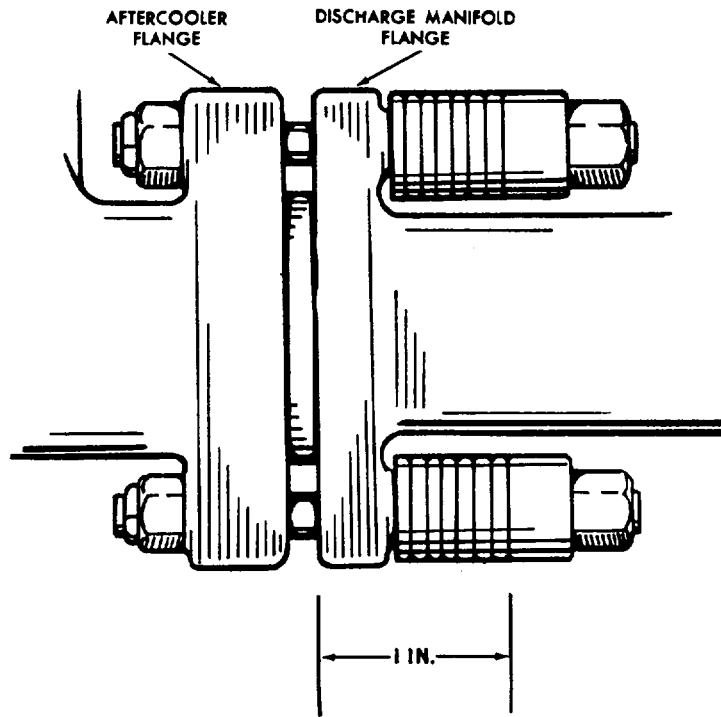

Figure 53. Aftercooler flange mounting view.
- (4) Insert the three studs (14), with the special nuts (18), spacers (19), spring washers (20) and end washers (21) installed, through the mounting flanges of the aftercooler and connection. Install and tighten the self-locking nuts (13) until the distance from the outer spring washer on each stud to the surface of the aftercooler flange measures one inch (fig. 53).
- (1) Assemble the packing (22) to the sleeve (25) and insert these parts into the recess in the compressor manifold discharge opening.
- (2) Install the plain washers (23) on the aftercooler brace studs, and fasten the flywheel guard (28) to the studs with the castellated nuts (27) and cotter pins (26). The brace (29) welded to the top of the guard is secured to the aftercooler with three self-tapping screws (24).
- (3) Lift the assembled aftercooler and guard up into position with one end of the aftercooler resting on the engine support brace (32). Insert the three studs (14), with the special nuts (18), spacers (19), spring washers (20) and end washers (21) installed, through the mounting flanges of the aftercooler and compressor exhaust manifold. Install and tighten the self-locking nuts (13) until the distance from the outer spring washer on each stud to the surface of the aftercooler flange measures one inch (fig. 53).
- (4) Swing the clamp (38) underneath the engine support brace (32) and tighten the hex nut (35) securely.
- (5) Install the aftercooler to receiver connection (par. 116c).